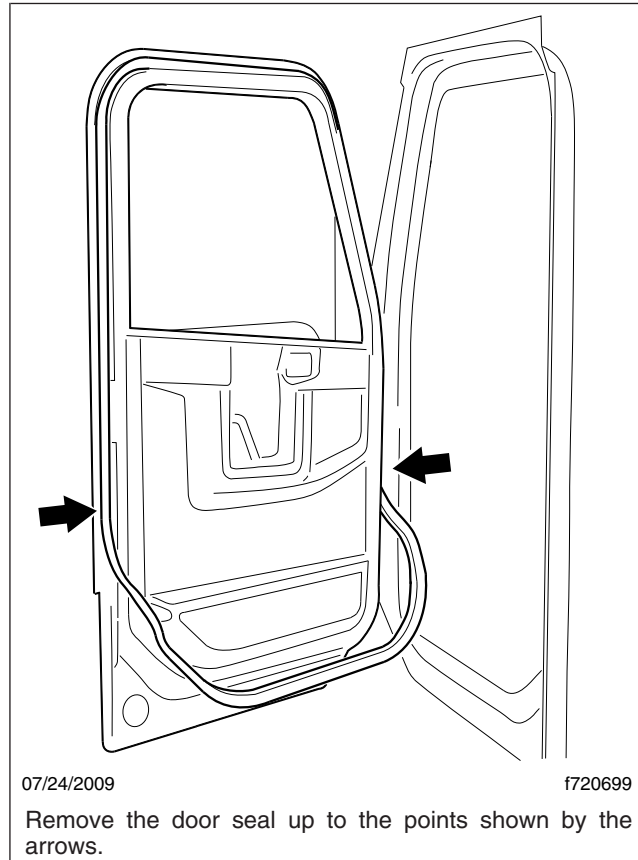

Fig. 1, Door Seal Partially Removed
2. Pull up the door seal from the interior trim panel. It is not necessary to remove the door seal entirely, just enough to remove the trim panel. See Fig. 1.